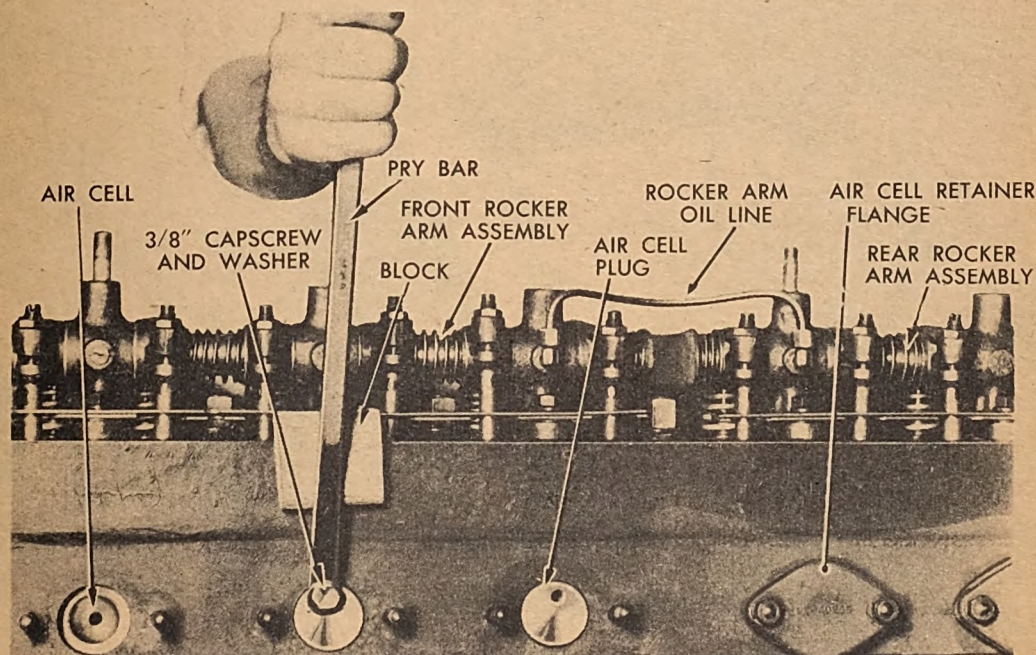

Fig. 78. Removing Energy Cell Plug
(8) Unscrew the nuts holding the air cell retaining flange to the cylinder head. Screw a  $\frac{3}{8}$ -inch capscrew in the air cell plug and pry the plug from the head. (See Figure 78.) (The plug is ordinarily a sliding fit in the cylinder head, but a slight accumulation of carbon may necessitate the use of a pry as suggested.)
*a. Removing Rocker Arm Assembly.* The cylinder head cover was removed when the engine was disassembled from the generator set. A lifting bracket was installed in place of the cover in order to provide a means of lifting the engine from the generator set. Disconnect the oil line connecting the two rocker arm assemblies. (See Figure 78.) Unscrew the six capscrews holding each rocker arm assembly to the cylinder head. Lift off the two push rod spacers for each rocker